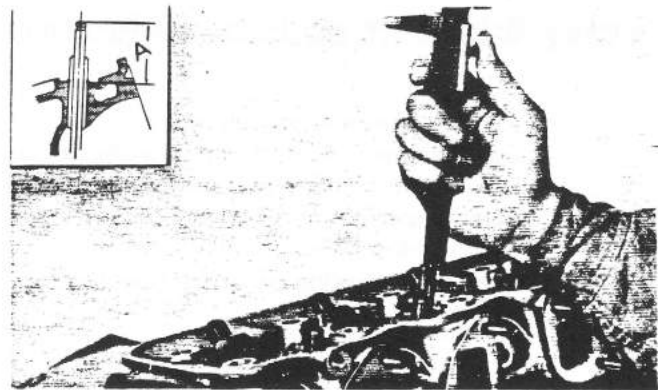

Fig. 67
Note: After grinding the valve sheet and valve face, insert and adjust the valve spring sheet lower into the spring bottom to obtain the standard measurement (A) 1.596 in. (40.5 mm), The valve spring seat lower is 0.020 in. (0.5 mm) thick as shown Fig. 67.